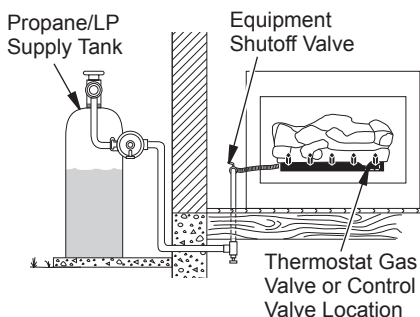

Figure 15 - Checking Gas Joints (Propane/LP Only)
3. Check all joints from gas meter to equipment shutoff valve for natural gas or propane/LP supply to equipment shutoff valve for propane/LP (see Figure 15 or 16, page 16). Apply noncorrosive leak detection fluid to all joints. Bubbles forming show a leak.
4. Check all joints from equipment shutoff valve to thermostat gas valve (see Figure 15 or 16). Apply noncorrosive leak detection fluid to all joints. Bubbles forming show a leak.